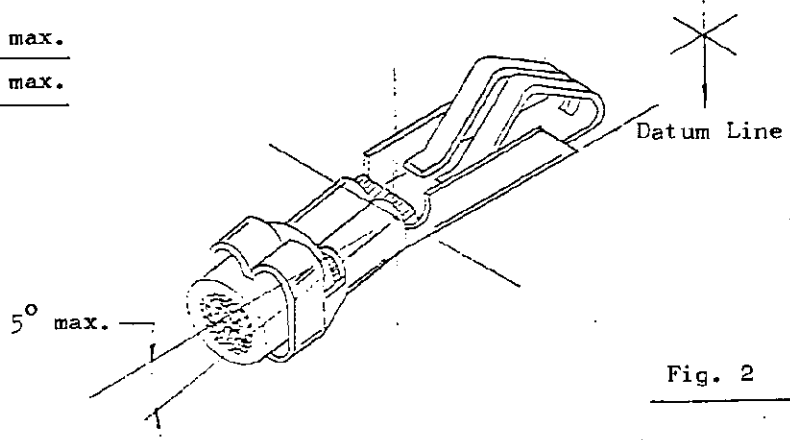

Fig. 2
- 3.1.1 Bending Down: 5° max. (Fig. 2)
- 3.1.2 Bending-Up 3° max. (Fig. 2)